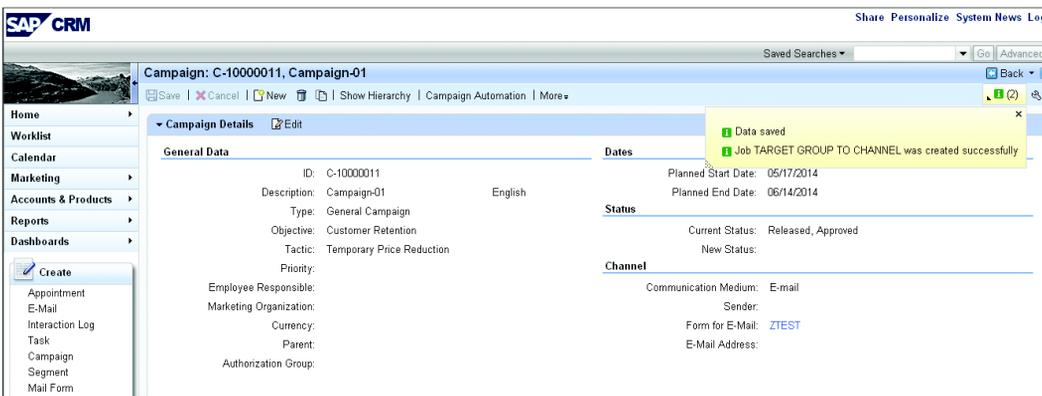

Figure 5.23 Campaign Creation
7. Figure 5.23 shows the job triggered successfully.